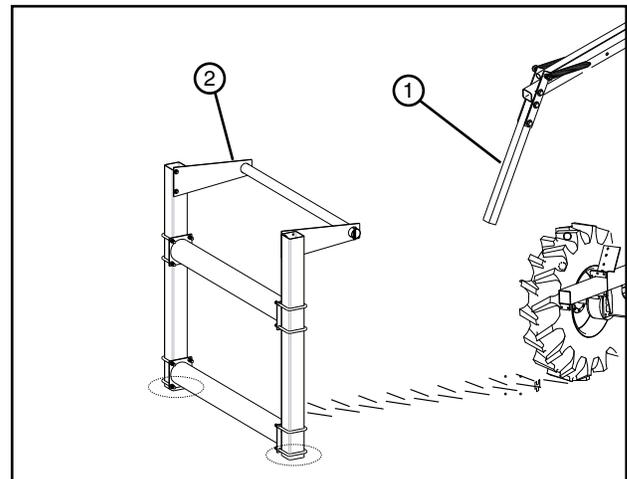

Figure 31-2 1. Actuator arm
- **Care must be taken when the barricade option in Figure 31-2 is used. The operator **MUST** ensure the actuator arm contacts the tripping structure. Under certain conditions, soil may build up in the wheel track resulting in a ramp effect. This may allow the actuator arm to go over the top of the structure which trips the actuator arm. Should this happen, the machine will not stop but continue to move and can result in damage to the machine**